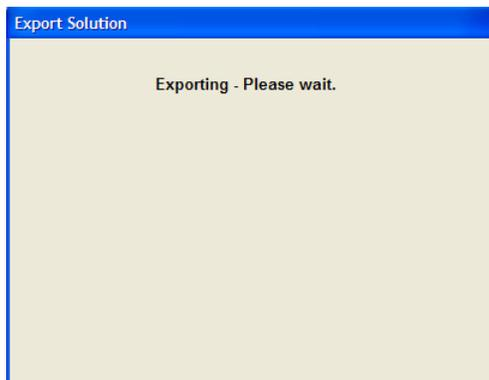

Figure 2-14. Please Wait – Exporting Project Window
2. Click on the OK button to start the export process. While BeeKit executes this, it displays the window shown in Figure 2-14, and the steps it takes scroll by in the Messages window pane.